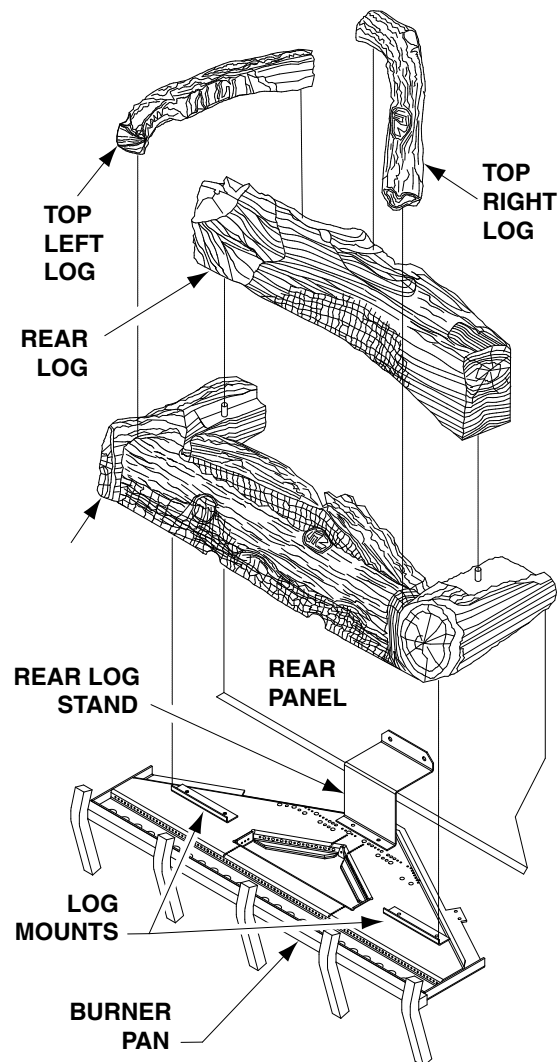

Figure 56 - Installing Logs
1. Position the base log onto burner log mounts. (see **Figure 56**).